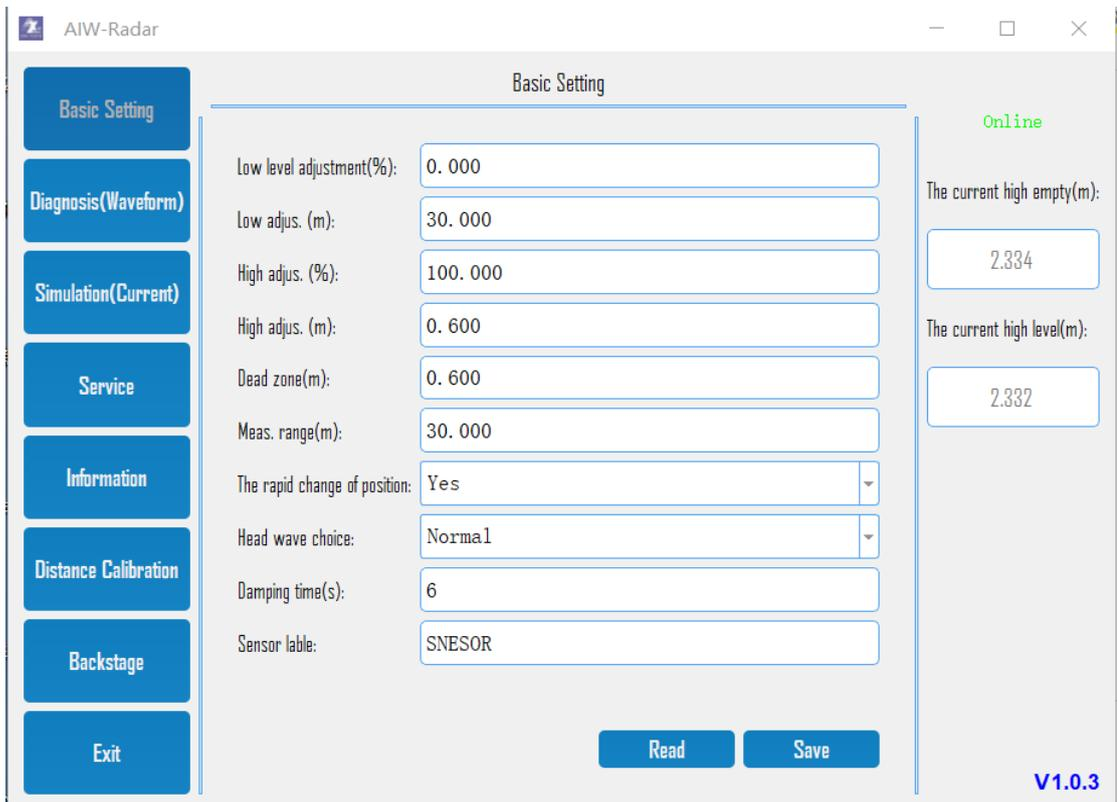

Figure 4.
- When the handshake between the software and the device is successful, it will automatically enter the main interface, which defaults to show the "basic settings" interface. The current distance of the device will be displayed on the right side of the main interface. As shown in Figure 4. Note: **If the current connection is 485 devices, the software will automatically shield "current" related functions.**